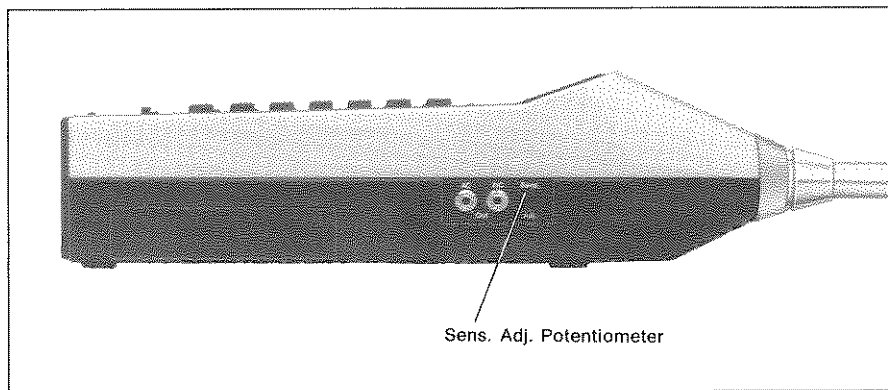

Fig. 2.8. Side view of the sound level meter showing the Sens. Adj. potentiometer
4. Use the supplied Screwdriver QA0001 to adjust the **Sens. Adj.** potentiometer on the side of the sound level meter (see Fig. 2.8) until the display shows a value of **94 . 0 dB + K-Factor**.